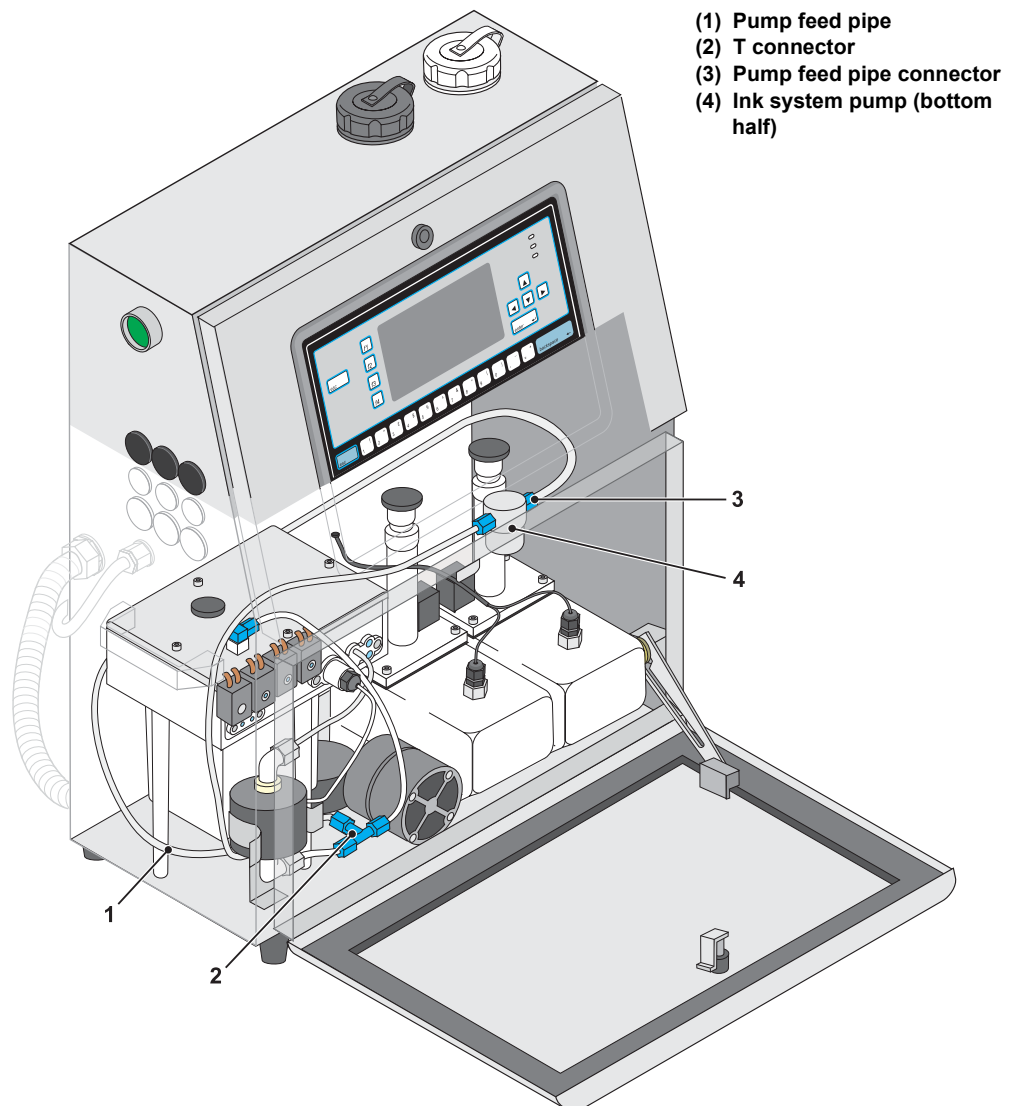

Figure 8-12. Ink System Pump Removal, part 1
- 2 Disconnect the end of the pump feed pipe (Item 1 in Figure 8-12) from the T connector (2) in front of the FMS. This will prevent ink being siphoned from the ink system when the pump is disconnected.
- 4 Disconnect the pump feed (3) and outlet pipes from the pump.